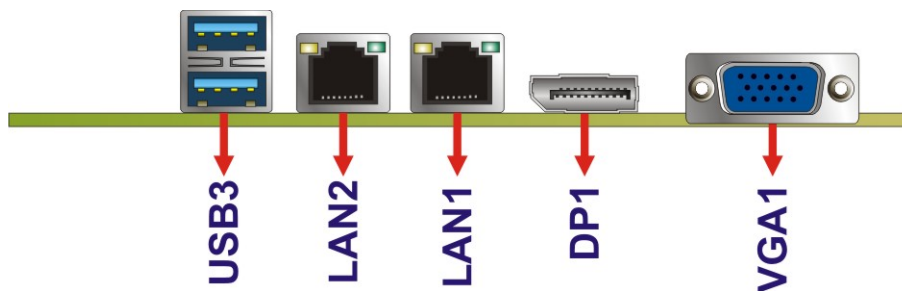

Figure 3-26: External Peripheral Interface Connector
Figure 3-26 shows the WAFER-AL external peripheral interface connector (EPIC) panel. The EPIC panel consists of the following:
| CN Location: | See Figure 3-26 |
- CN Location:** See **Figure 3-26**